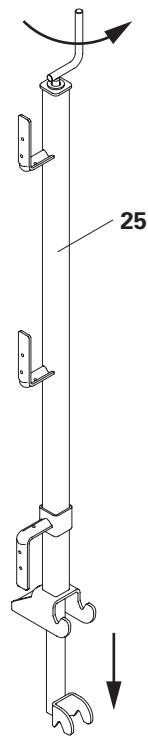
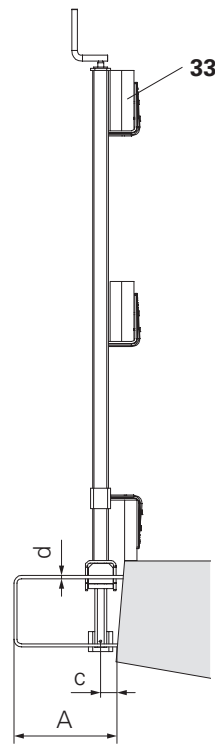

Fig. C4.02
Fig. C4.03
* Values are valid only in compliance with the boundary conditions in Tab. C4.02 and Fig. C4.03
(Fig. C4.02 + Fig. C4.03)